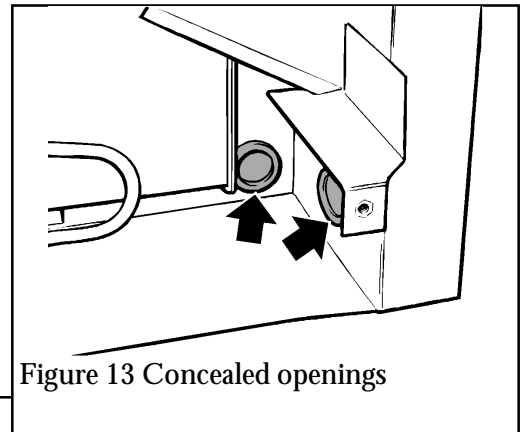

Figure 13 Concealed openings
7.1 If the gas supply pipe is to enter through the concealed rear or side opening, pierce the relevant grommet (See figure 13). If the supply pipe is sleeved, trim the sleeve back where it enters the appliance and seal the sleeve to the pipe.